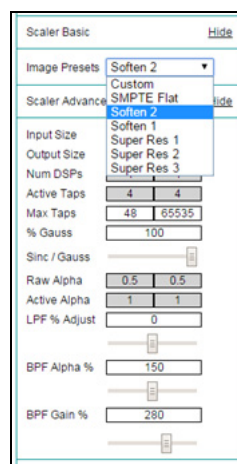

Figure 21: Image Presets
5. Select different options from the drop-down menu of **Image Presets** (see Figure 21).